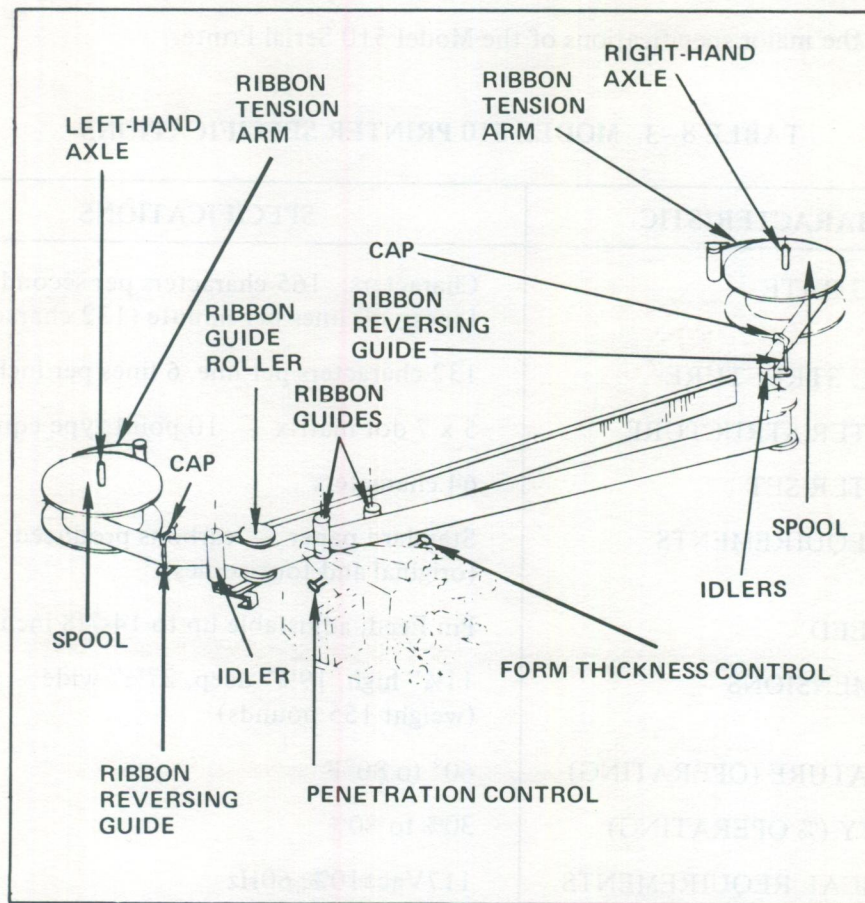

Figure 8-8. Ribbon Path (Serial Printer)
The Model 510 Serial Printer uses a one-inch fabric ribbon on a standard three-inch spool. Figure 8-8 illustrates the ribbon path. The following procedures are used to change a ribbon.
6. Guide the ribbon through the Reversing Guides, Idlers, and the Ribbon Guides, as illustrated by Figure 8-8 .